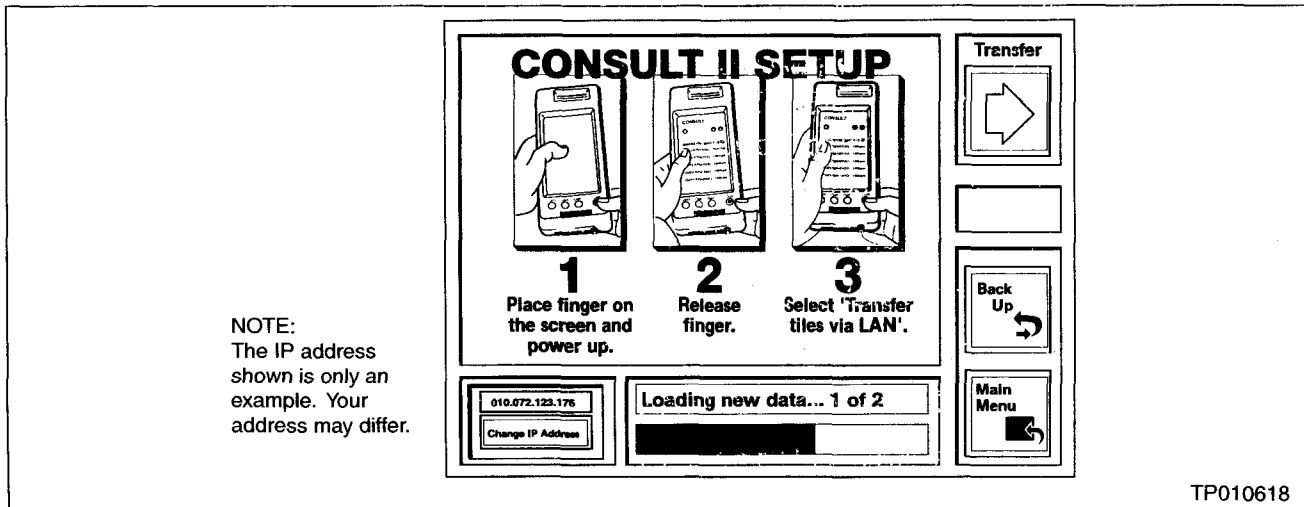

Figure 11
10. Data transfer will take about 1 minute and the progress of the transfer is displayed on the ASIST PC screen (see Figure 11). Wait until the data transfer is complete (see **CAUTION**, below).